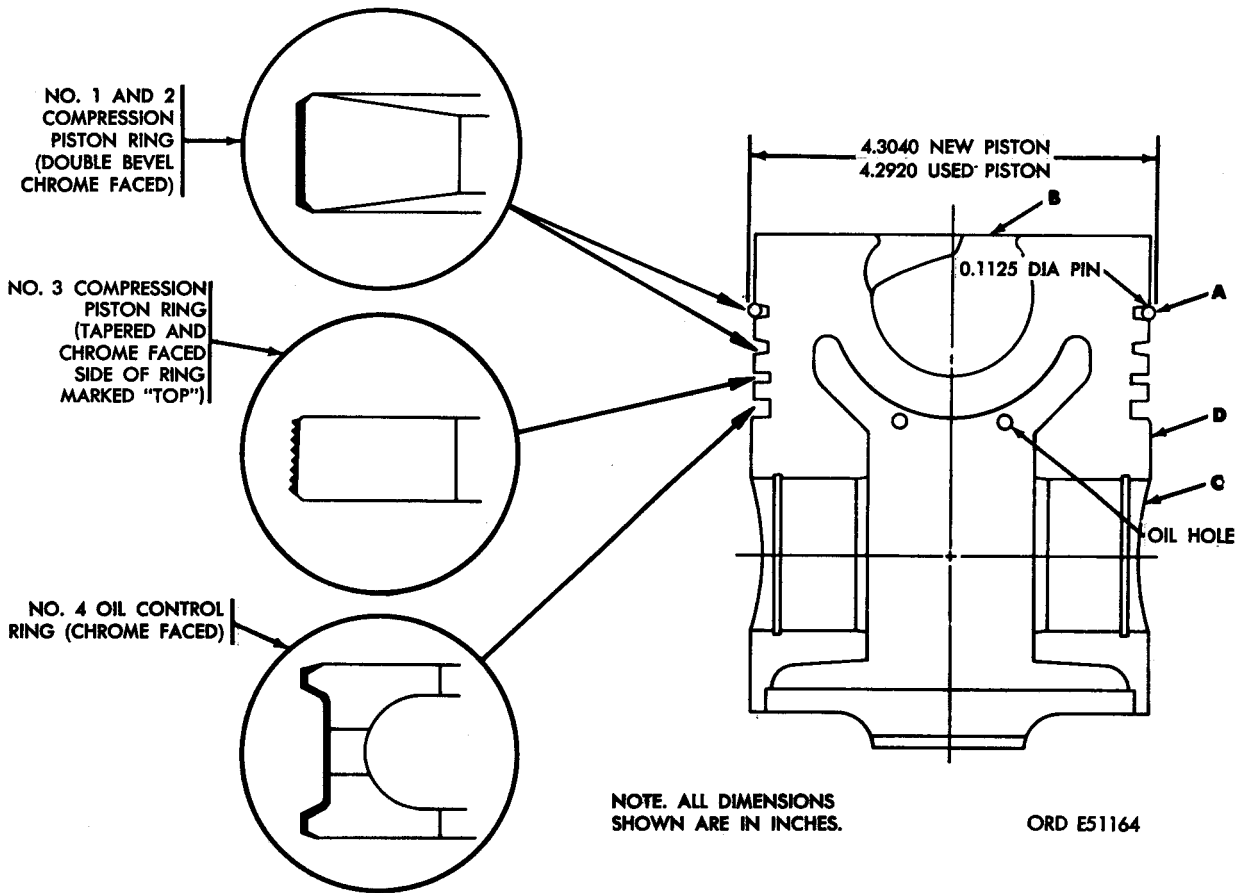

FIGURE 344. INSPECTION POINTS FOR PISTON.
ring lands. Clean oil holes in oil rings and oil ring grooves. Remove carbon from oil holes (fig. 344) in ring grooves of piston with a No. 23 drill (0.154-inch). Remove carbon from cavity and swirl inlet in piston head. Clean carbon from piston pins and bores with crocus cloth dipped in dry-cleaning solvent or mineral spirits paint thinner. Clean connecting rod sleeve bearing halves with cloth dipped in dry-cleaning solvent or mineral spirits paint thinner. Refer to paragraph 152 for general cleaning instructions for cleaning connecting rods and caps.
- (1) **Piston.** Inspect piston for cracks, burned piston ring lands, and damaged piston skirt. Thoroughly inspect piston. Figure 344. (A) Inspect general condition of No. 1 and No. 2 compression ring grooves in piston. Place a 0.1125-inch diameter pin on each side of piston in tapered ring groove as shown. Refer to repair and rebuild standards (par. 292) for wear limits. Measure the distance between pins using a micrometer. Measurement should be from 4.2920 for used piston to 4.3040 for new piston. Replace piston when measurement is below 4.2920 or the tapered ring groove is worn beyond limits specified. (B) Check condition of the spherical combustion chamber at top of each piston using a new piston for comparison. Chamber must not be burned or distorted. (C) Check piston pin bore against limits specified in repair and rebuild standards (par. 292). Replace piston and piston pin when piston pin bore is over-size. (D) Check piston against limits specified in repair and rebuild standards (par. 292).
- (2) **Piston rings.** Inspect compression rings (TT and UU) and oil control rings (VV) for scuffing, scoring, chipping, scratches, or abrasions. Pay particular attention to rings which were found to
Note. No. 3 compression ring is marked "TOP" on one face and this side is installed toward head of piston. The face of the ring is tapered as shown in figure 344. The other piston rings are not marked.
Note. The clearance between No. 1 and No. 2 compression rings and ring lands on piston cannot be accurately checked because piston rings and ring grooves are tapered. See figure 344.